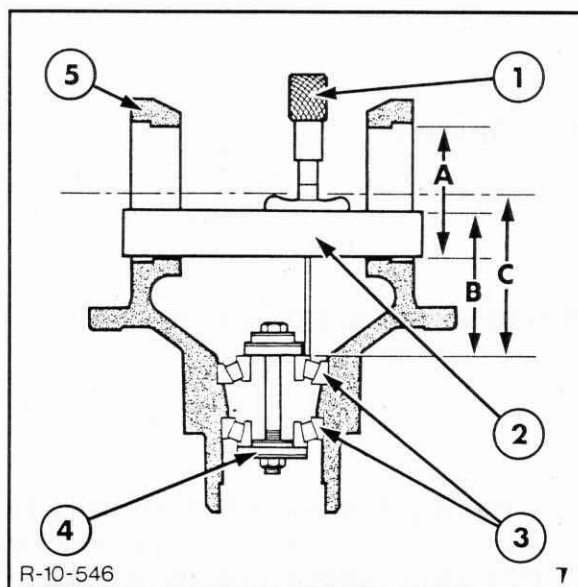

Figure 7-130
- d. Locate the circular bar of tool no. FT. 3135 (4775) across the two bearing bores in the support housing, Figure 7-130, and using a depth gauge, measure the dimension, B.